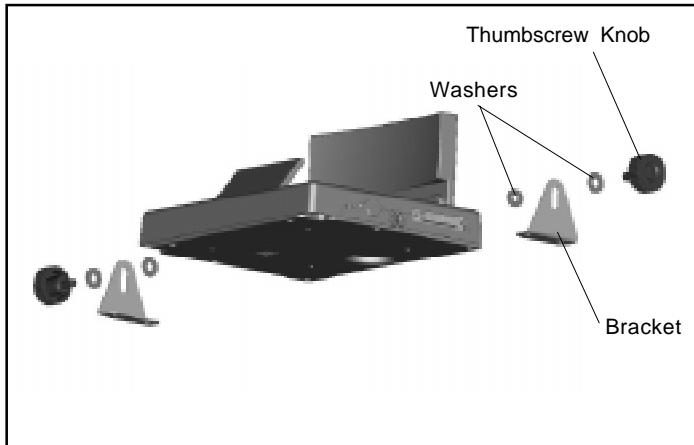

Figure 22 Knob and Washer Assembly
2. Hold one washer between the display and a bracket while threading the washer/knob assembly from the outside of the bracket. Refer to Figure 22.